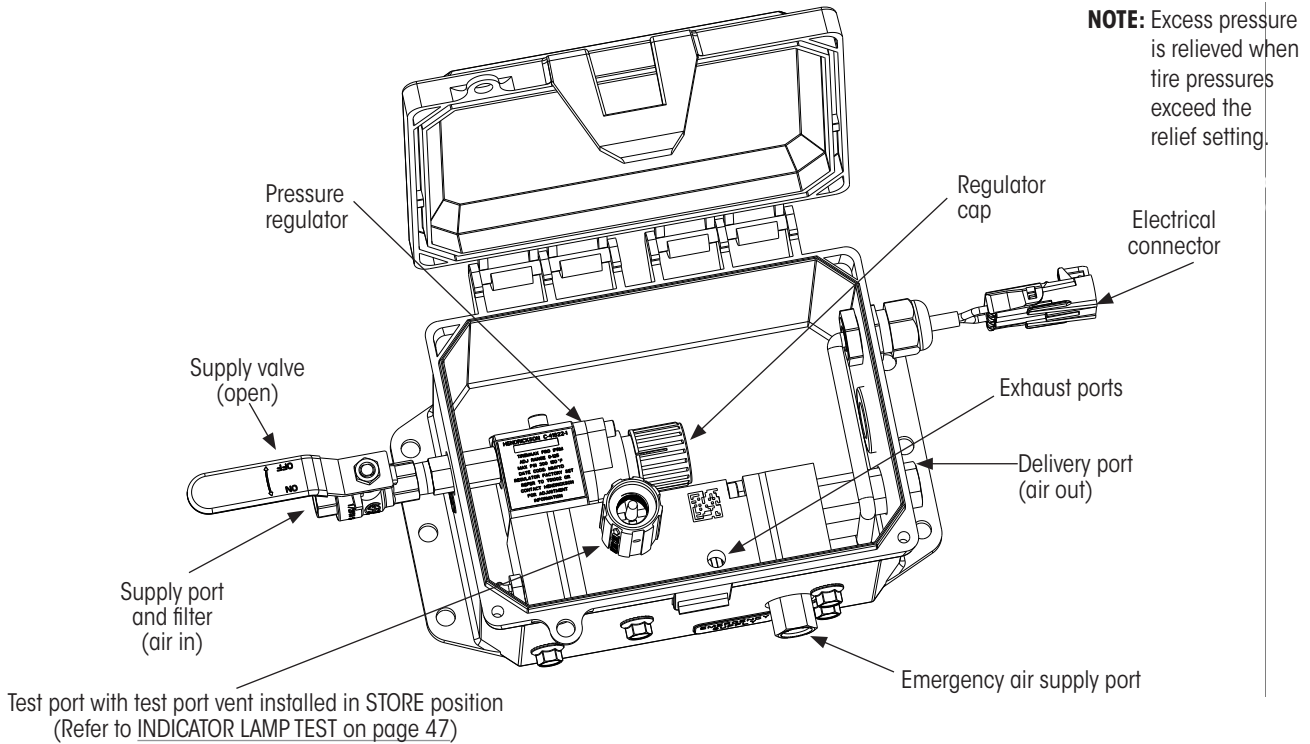

Figure 46: Setting TIREMAAX® PRO
3. **Locate** controller on the trailer, Figure 46 on page 44.
5. **Open** controller cover and **remove** test port vent, if included, Figure 46.
3. **Reinstall** the test port vent (Figure 46) in the store position.